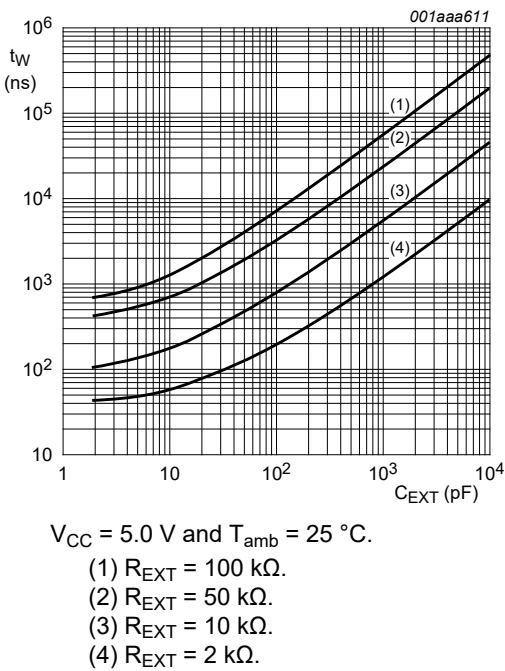

Fig. 6. Typical output pulse width as a function of the external capacitor values
nB input HIGH; see Fig. 5 and Fig. 6
$n\bar{RD}$ input LOW; see Fig. 5 and Fig. 6
- [3] For other R_{EXT} and C_{EXT} combinations see Fig. 6. If C_{EXT} > 10 pF, the following formula is valid:
To set the minimum pulse width, when $C_{EXT} < 10 \text{ nF}$, see Fig. 6 and when $C_{EXT} > 10 \text{ nF}$, the output pulse width is defined as: